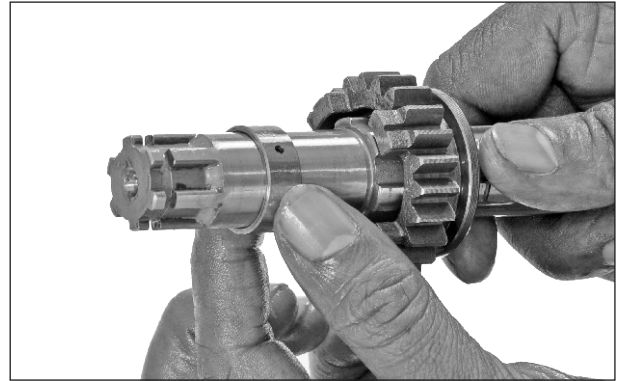

Fig. 3.164
- Take out the star bush. (Fig. 3.164)